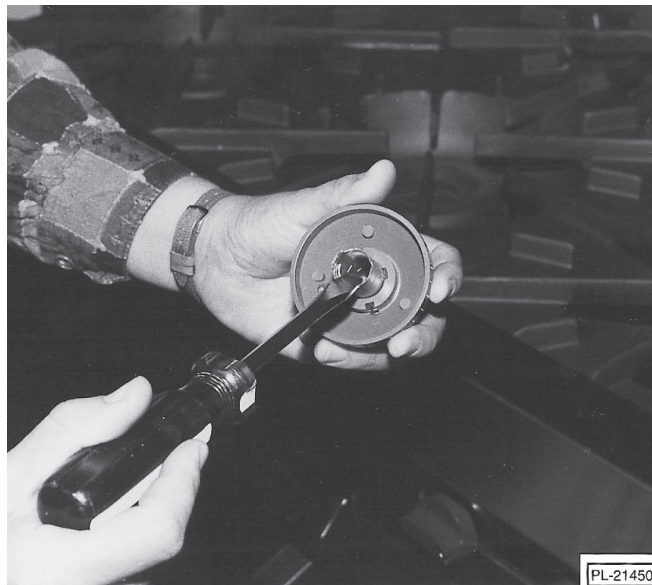

Fig. 7
5. Using a screwdriver placed through the dial shaft, push the metal dial insert out of the dial (Fig. 7).